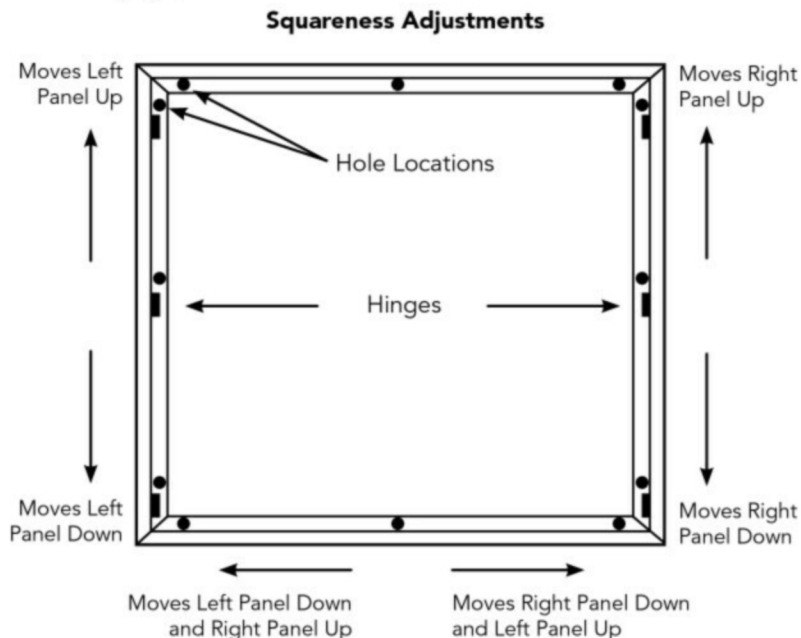

Fig. 6.1
4. Square or level panels to the opening (See Fig. 6.1)